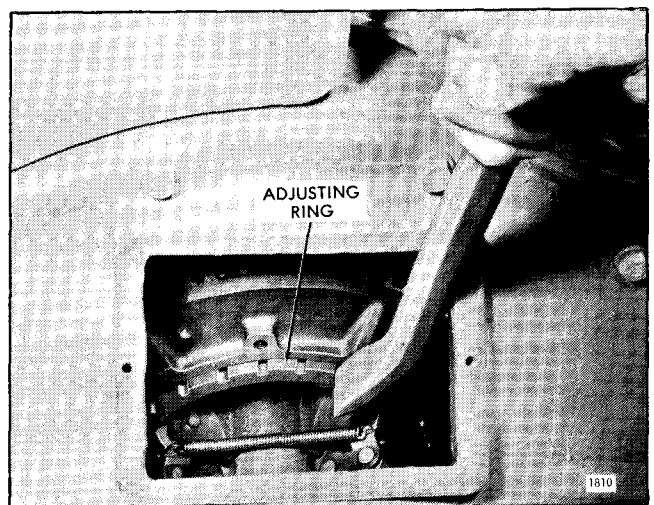
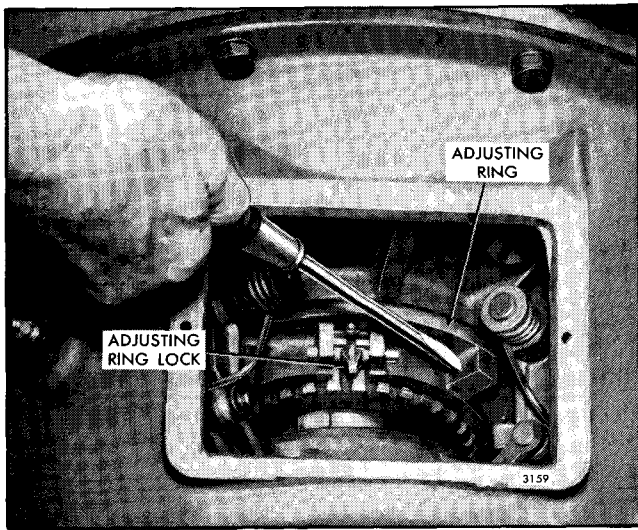
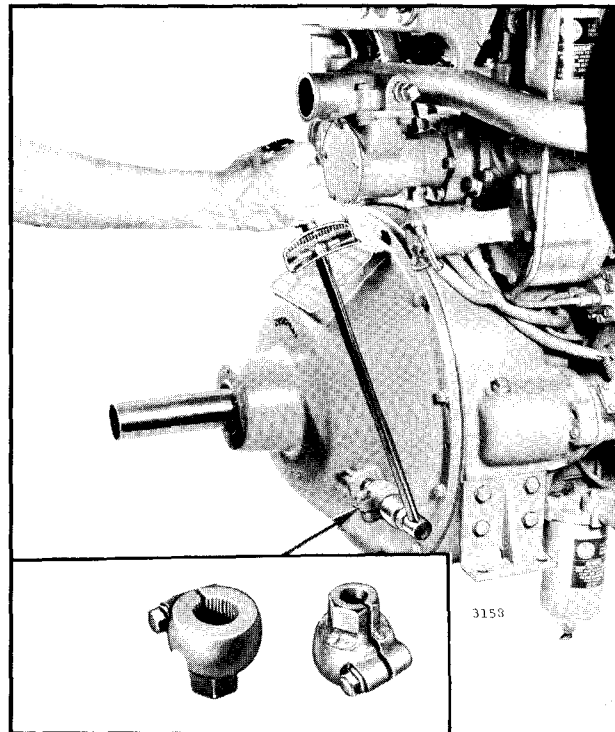

Fig. 7 - Power Take-Off Showing Typical 8" and 11-1/2" Diameter Clutch Adjustment Ring
Fig. 8 - Power Take-Off Assembly Showing 14" Diameter Clutch Adjustment Ring
Fig. 9 - Power Take-Off Clutch Adjustment Check with Torque Wrench and Adaptor
4. On the 8" and 11-1/2" diameter clutches, remove the clutch adjusting ring spring lock screw and lock from the inner clutch pressure plate and adjusting ring. Then, while holding the clutch drive shaft to prevent the clutch from turning, turn the clutch adjusting ring counterclockwise (Fig. 7). Tighten the clutch until the desired pressure on the outer end of the hand lever, or at the clutch release shaft (Fig. 9), is obtained as shown in Table 1.
5. On the 14" diameter single and double plate clutches, raise the end of the adjusting ring lock up out of the splined groove in the hub of the outer clutch pressure plate. Then, while holding the clutch drive shaft to prevent the clutch from turning, turn the clutch adjusting ring clockwise (Fig. 8). Tighten the clutch until the desired pressure on the outer end of the hand lever, or at the clutch release shaft (Fig. 9), is obtained as shown in Table 1.
However, a more accurate method of checking the clutch adjustment is with a torque wrench as shown in Fig. 9.
To fabricate an adaptor, saw the serrated end off of a clutch hand lever and weld a 1-1/8" nut (across the hex) on it as shown in Fig. 9. Then saw a slot through the nut.
The marine gear selector control valve assembly on the multiple engine units is provided with several levers (Fig. 8). The master control lever engages all of the marine gears in forward or reverse simultaneously. The smaller levers, one for each engine of the unit, operate the shutoff control valves for controlling the flow of oil to each individual engine marine gear. These levers are normally set in a vertical position ("on" position). To shut down one engine for service work or to conserve on power in a light-load situation, place the master control lever in the neutral position and then turn the shutoff lever for that engine to the "off" position (90 degrees toward the engine). With the shutoff lever in the "off" position, the marine gear for that engine is locked out of engagement. The other engines can then continue to supply power to the gear box.